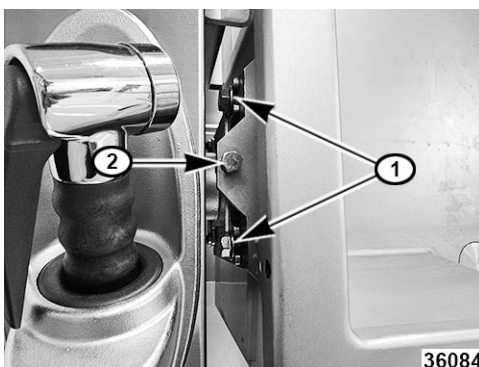

Fig. 81
9. Adjust top tank screws (2, Fig. 81 and Fig. 82) to raise and lower each side.